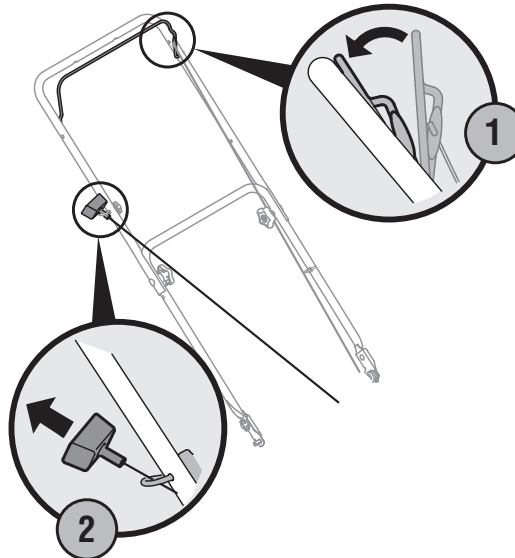

Figure 4-2
1. Standing behind the mower, squeeze and hold the blade control against upper handle, Figure 4-2.